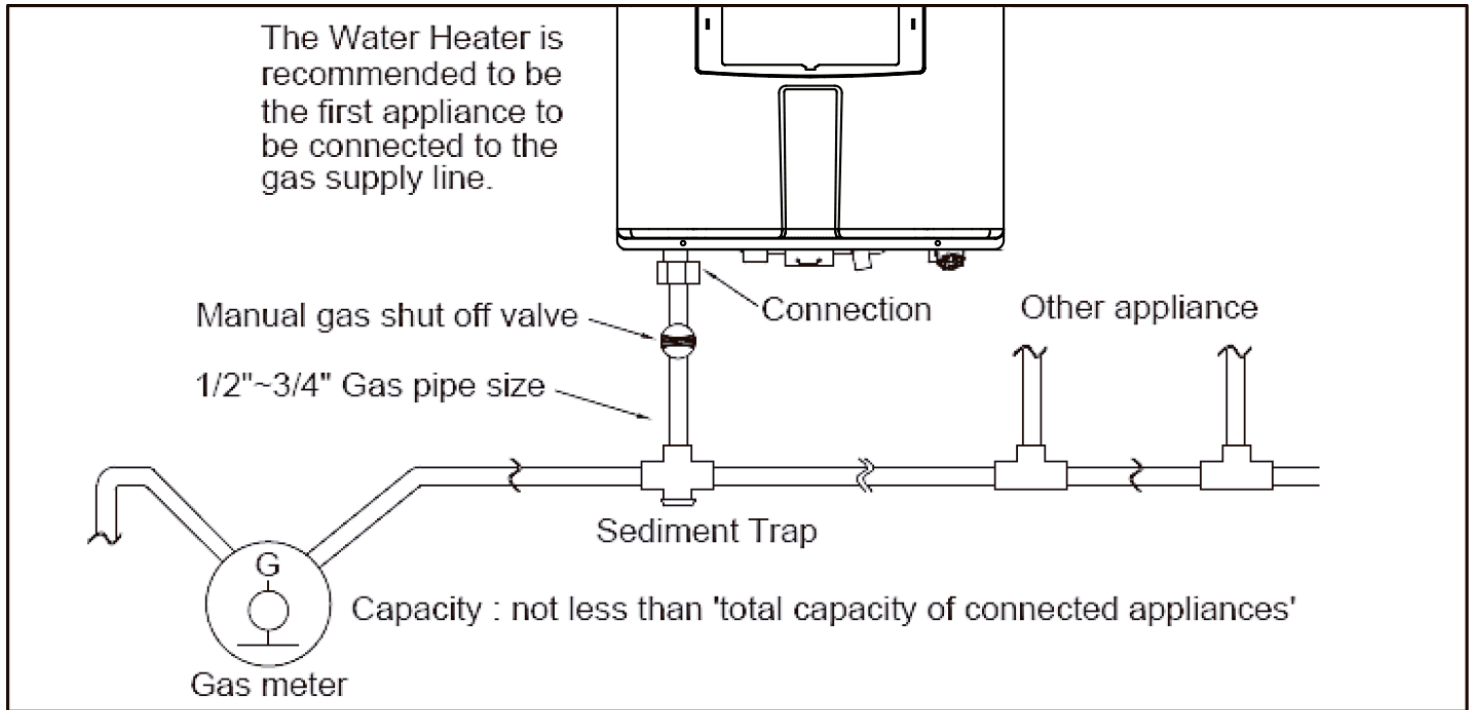

Figure 15 – Natural Gas Piping Installation
4. A manual gas shut-off valve should be installed in the gas supply line close to the water heater. See Figure 15 for detail.